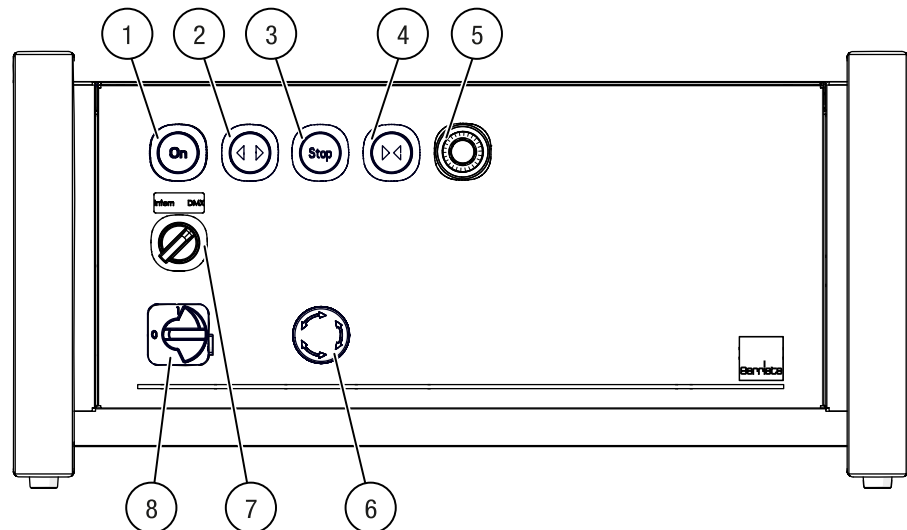

Fig. 25: Front – G-FRAME 54 control unit
The G-FRAME 54 control unit is used to control the motorised track system. It enables the curtain or scenery material to be moved along the track and, with appropriate configuration, the travel speed to be adjusted. The control unit can be integrated into a 19-inch rack, mounted on a wall or placed on a surface (see *Chapter 5.6.1 Setting up G-FRAME control* [► p. 74]). Depending on the version, the control unit is available for fixed or variable travel speed. With the fixed speed version, the potentiometer (5/Fig. 25) is omitted.
- 'ON' indicator light (1/Fig. 25): Shows the operating status of the control unit.
- 'Open' button (2/Fig. 25): The system moves in the 'Open' travel direction.
- 'Close' button (4/Fig. 25): Moves the system in the opposite direction.
- 'STOP' button (3/Fig. 25): Stops the movement immediately.
- Potentiometer (5/Fig. 25): Enables the travel speed to be reduced compared to the maximum speed.
- Emergency stop switch (6/Fig. 25): Disconnects the control unit from the mains in an emergency.
- Internal/DMX selector switch (7/Fig. 25): Selects between local operation and external control.